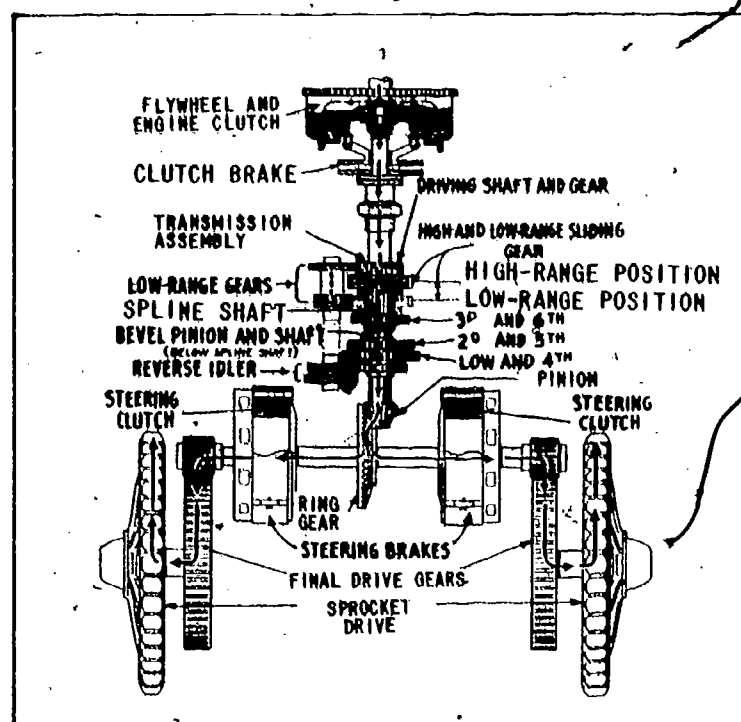

Fig 3-2. Propelling power train of a tracked vehicle.
b. Tracked vehicles. The power train of a tracklaying vehicle is usually more ruggedly constructed than that of a wheeled vehicle, but the functioning is the same. The propelling power train of a tracked vehicle is illustrated in figure 3-2. Power from the engine flows through the engine clutch, transmission, pinion and ring gear, steering clutches, final drives, and shafts to drive the sprockets along the tracks. Power can be transferred from the engine to the accessories by several means. For example, power for the single drum winch on some crawler-tractors flows from the transmission through a shaft to the winch gearbox, while power